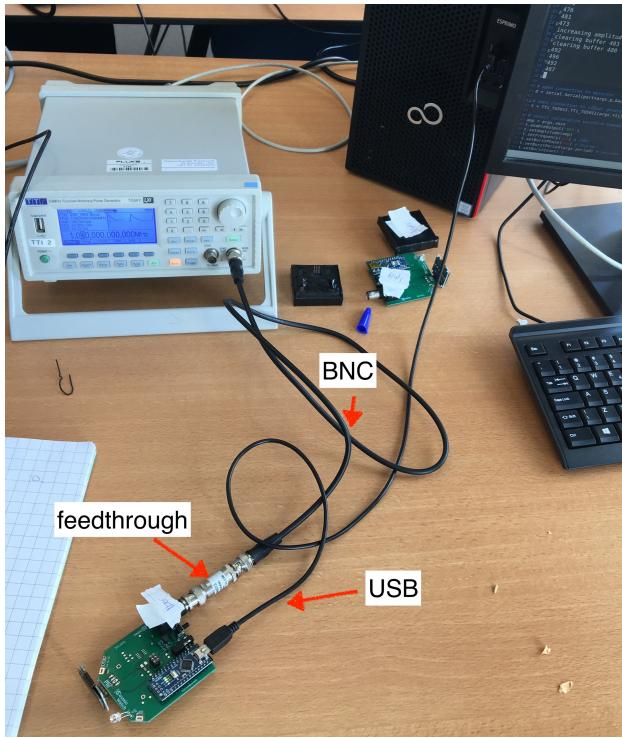

Figure 1: BNC cable and feedthrough termination.
3. turn on the signal generator, and connect the signal generator MAIN OUT (right BNC) to the detector using feedthrough termination, see Figure 1